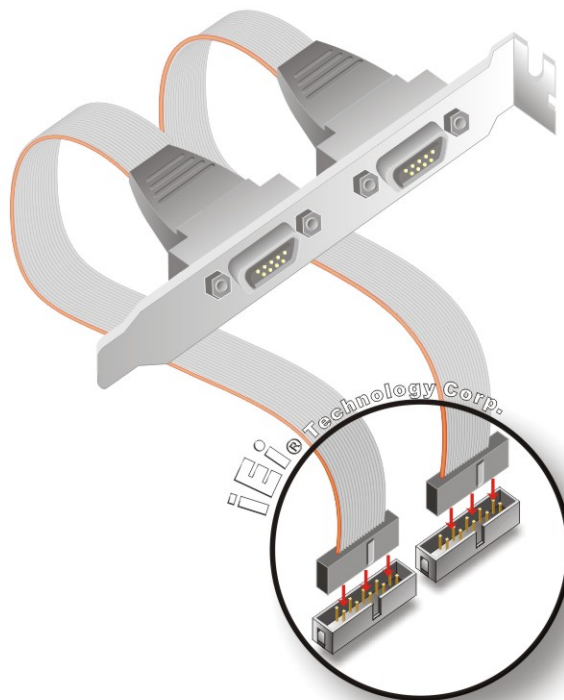

Figure 5-9: Dual RS-232 Cable Installation
Step 2: Insert the cable connectors. Insert one connector into each serial port box headers. See **Figure 5-9**. A key on the front of the cable connectors ensures the connector can only be installed in one direction.